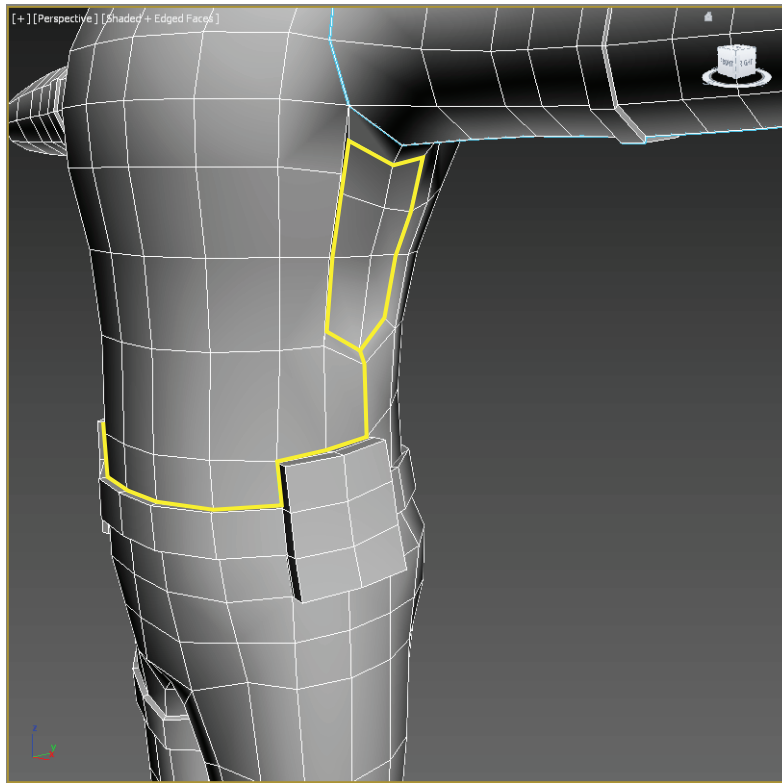

FIGURE 11.6 Add these seams to define the torso areas under the arm.
11. Right-click and box out areas under the arms on both sides, as shown in Figure 11.6.
In Figure 11.6, you can see the seams block out the area under the arm and continue down to the belt line and across the top of the belt line around the waist. If you pick a point by mistake, you can use the Undo Scene Operation button.